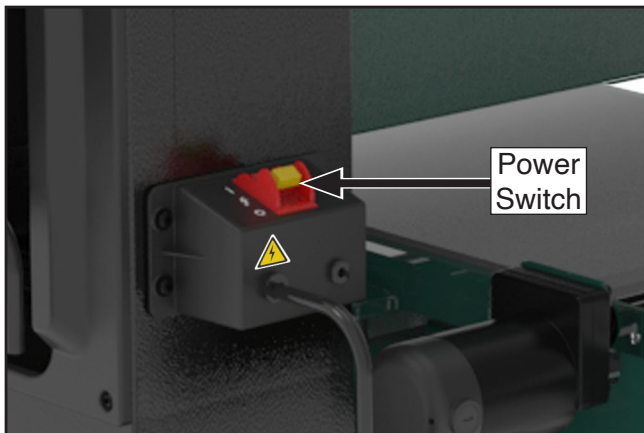

Figure 20. Location of power switch.
5. Move power switch to ON position (see **Figure 20**). Drums will rotate once, power indicator will illuminate, and control panel will display machine-specific voltage code.